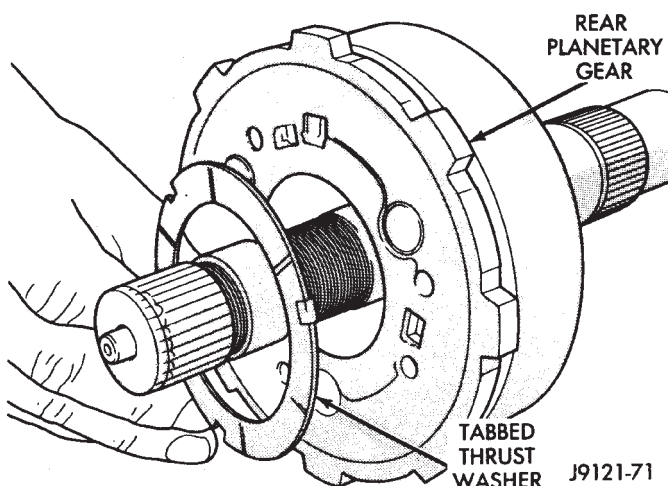

Fig. 82 Installing Rear Planetary Thrust Washer—46RH
(6) Install tabbed thrust washer on front face of rear planetary gear (Fig. 82). Seat washer tabs in matching slots in face of gear carrier. Use extra petroleum jelly to hold washer in place if desired.